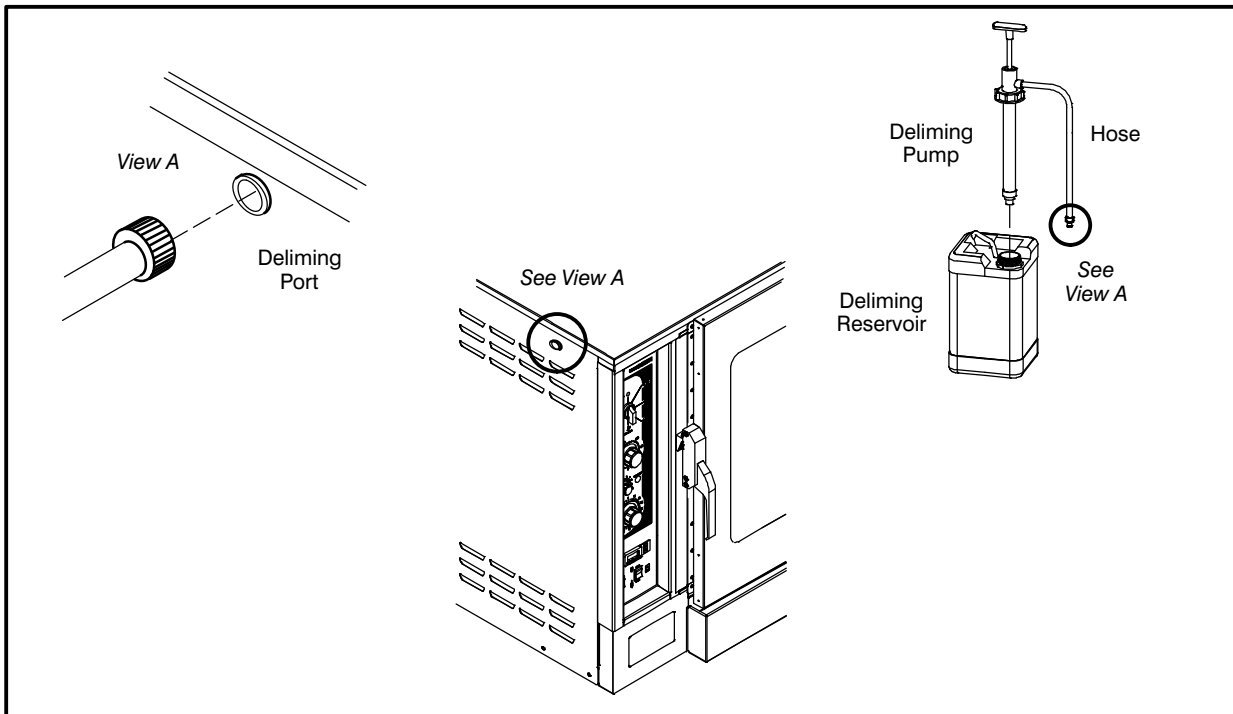

Figure 20
2. Remove the cap from the appliance. Attach the pump hose end to the delimiting port. See Figure 20.
3. Pump in the delimiting agent into the appliance by pulling up fully then pushing down on the pump handle. Each up then down action equals (1) One pump. Use the following table.